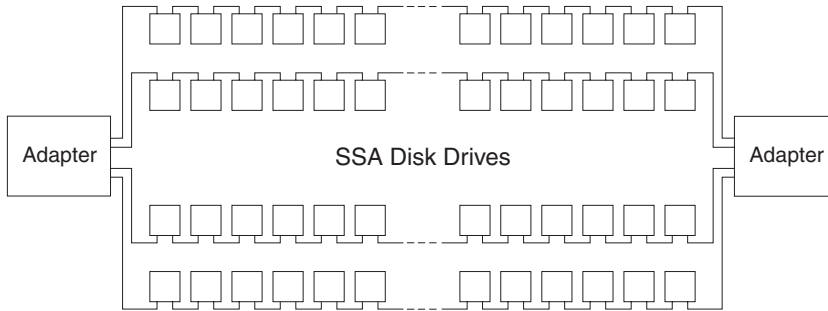

Figure 5. Two Adapters Connected in Two SSA Loops
- If you are not using RAID-0 arrays, a second pair of adapter connectors can be connected in a particular SSA loop. The second adapter must be another IBM Advanced SerialRAID/X Adapter. If an adapter is connected in two SSA loops and each loop contains a second adapter, the same two adapters must be in both loops, as shown in Figure 5 on page 35.